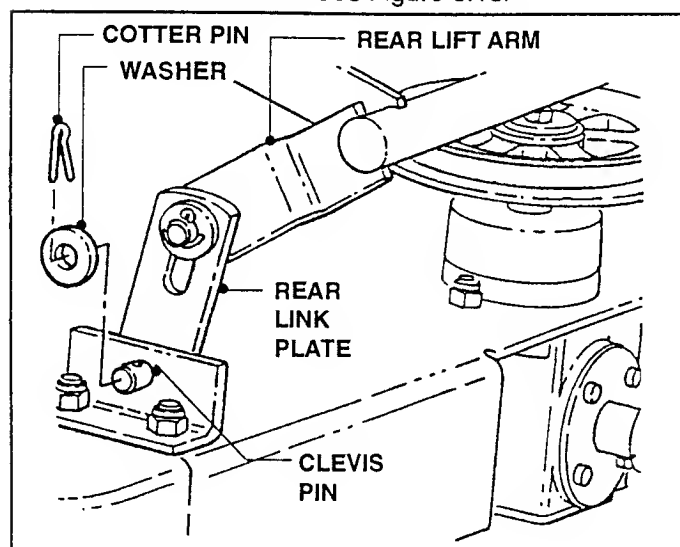

FIGURE 8.13
E. Remove Cotter Pins and Washers from Link Plates on Rear Lift Arm. See Figure 8.13.